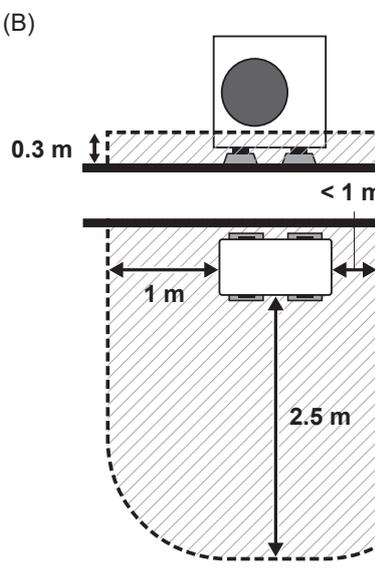

Fig. 2-5
(3) When installed in a location with 2 surfaces opened (where the distance between one side of the unit and the wall is less than 1 m, e.g. at the corner of a building wall) (Fig. 2-5)
- 1 m to the open side of the unit (A)
Where the distance between one side of the unit and the wall is less than 1 m, same conditions as shown in Fig. 2-5 apply.